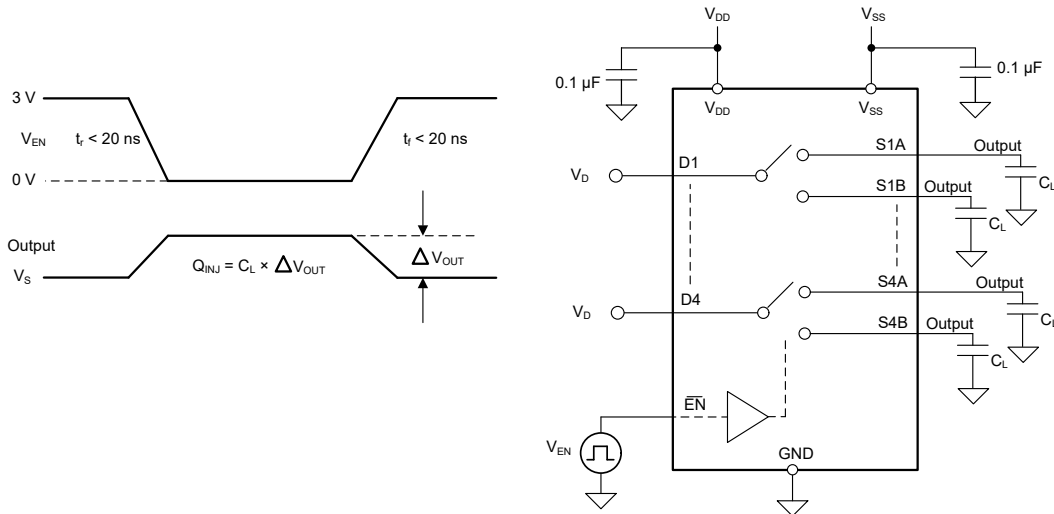

図 6-9. Charge-Injection Measurement Setup
The TMUX6234 has a transmission-gate topology. Any mismatch in capacitance between the NMOS and PMOS transistors results in a charge injected into the drain or source during the falling or rising edge of the gate signal. The amount of charge injected into the source or drain of the device is known as charge injection, and is denoted by the symbol Q_{INJ} . 図 6-9 shows the setup used to measure charge injection from source (S_x) to drain (D).